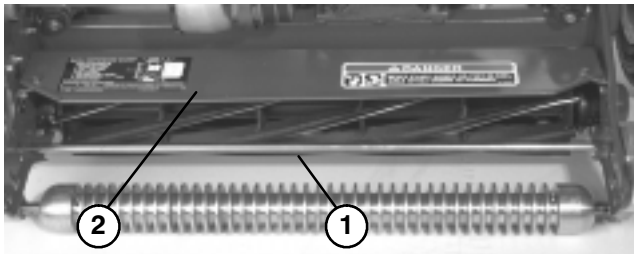

Figure 15
1. Measure distance from top of front support rod to the front lip of the shield at each end of cutting unit (Fig. 15).